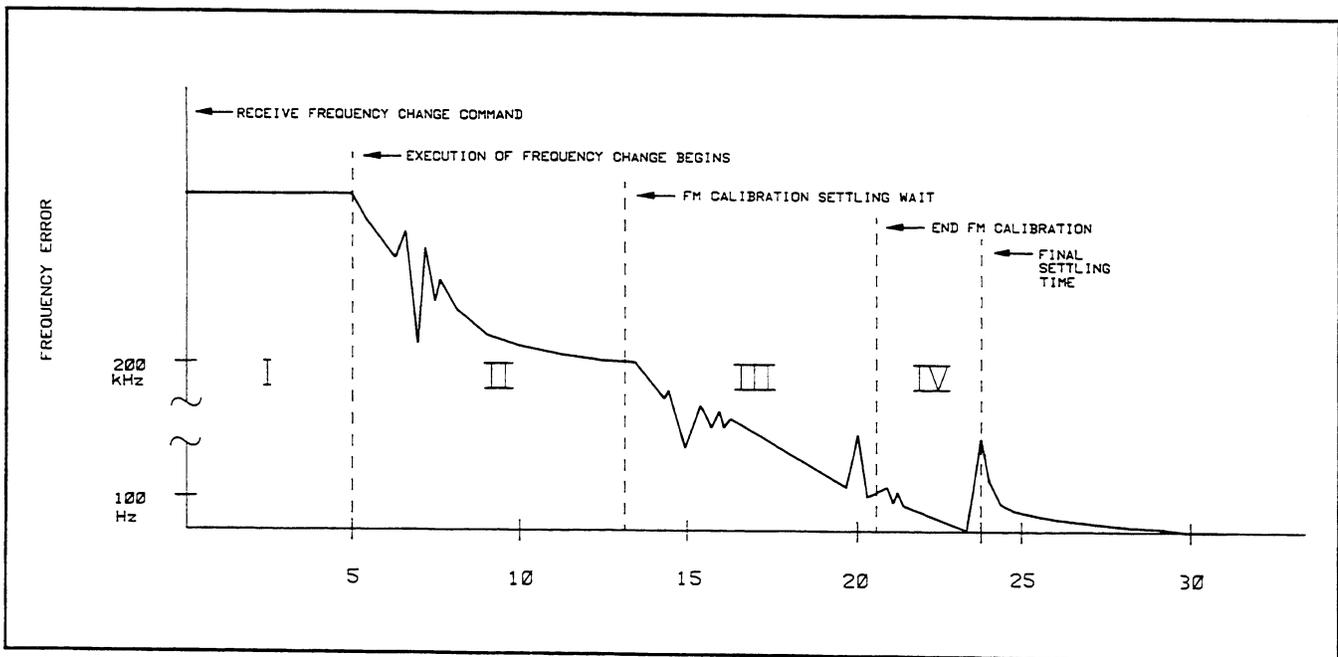

Figure 3-2. Frequency Switching Characteristics
**Frequency Switching.** The Signal Generator will typically be within 100 Hz of the final frequency and 1 dB of the required level within 25 ms after receiving the valid units data (terminator). Figure 3-2 shows the sequence of events and the typical error frequency relative to time. Area I shows the software execution time. Areas II through IV make up the hardware execution time.
At times certain events in the frequency switching cycle may be bypassed. For example, small frequency changes will often eliminate event II, the loop settling time or event III, the FM calibration cycle. However, the frequency change that allows these events to be bypassed depends on an involved algorithm that is a function of frequency. Therefore, it is best to assume that the entire sequence of events shown in Figure 3-2 occurs every time a frequency change is made.